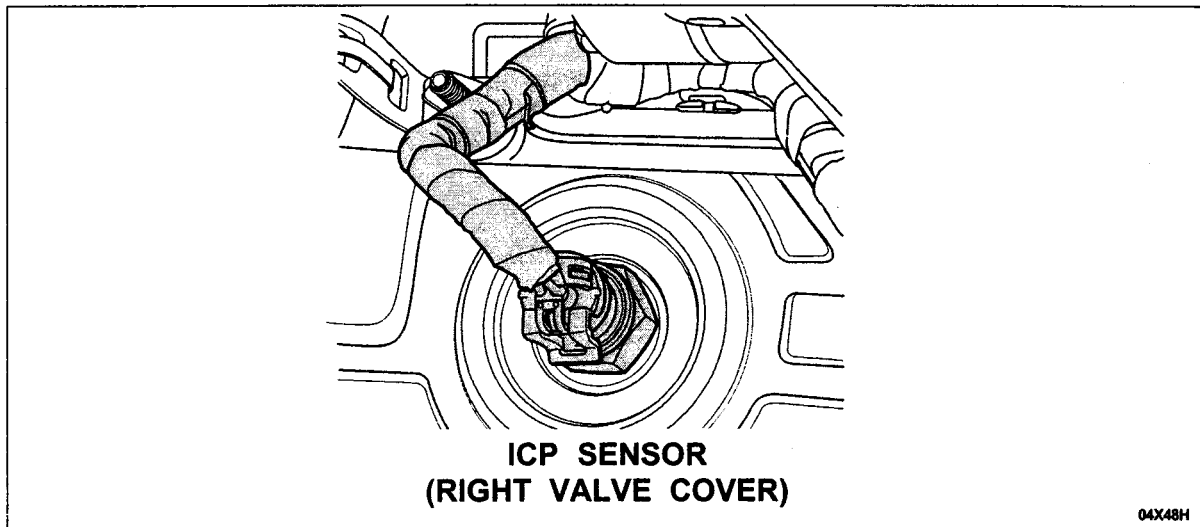

FIGURE 9
1. Remove the CAC duct (hot air inlet duct) from the passenger side of the engine compartment, then disconnect the ICP sensor. See Figure 9.